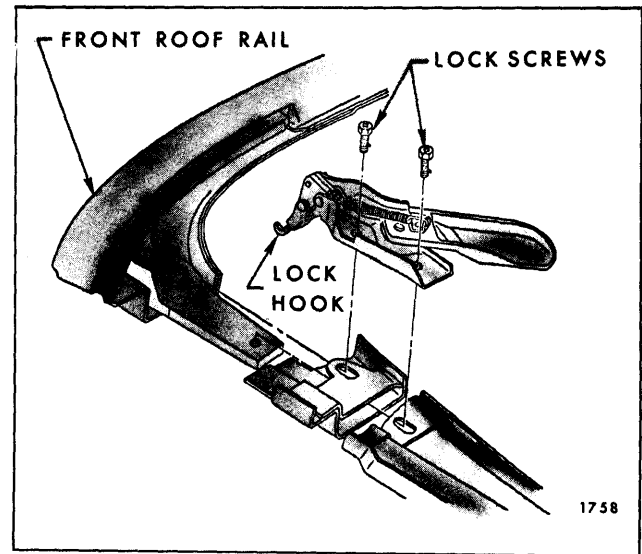

Fig. 13-86—Front Roof Rail and Lock Attachment - "Z" Styles
2. Loosen side roof front rail lock attaching screws and adjust front roof rail fore or aft as required (Fig. 13-86).
2. With top in a half-lowered position, remove lock attaching screws; then remove lock assembly from front rail (Fig. 13-86).
2. To reduce or decrease locking action, turn lock hook counterclockwise (Fig. 13-86).